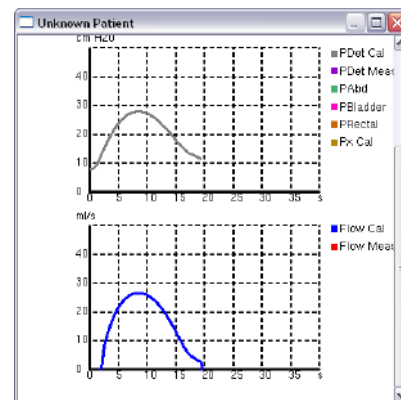

Figure 169: Separate P and Q
- Select the **Separate P and Q** button to open a graph window that separates the pressure curves and the flow curves onto two different graphs (Figure 169).